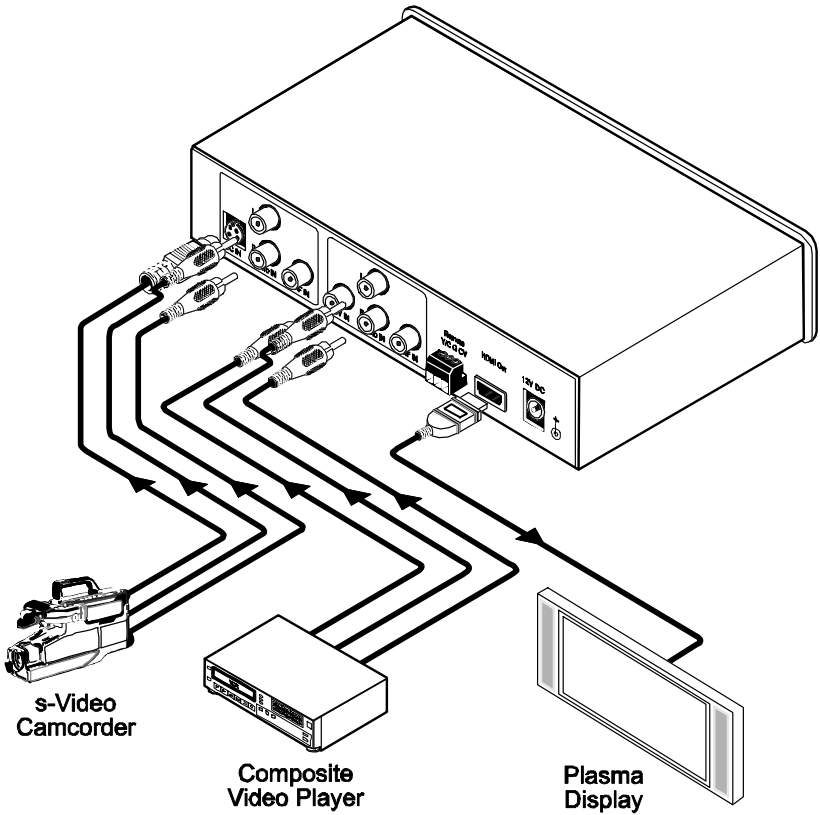

Figure 2: Connecting the VP-418 Video to HDMI Scaler
To connect your **VP-418**, as the example in Figure 2 illustrates¹, do the following²:
6. Connect the 12V DC power adapter to the power socket and connect the adapter to the mains electricity (not shown in Figure 2).